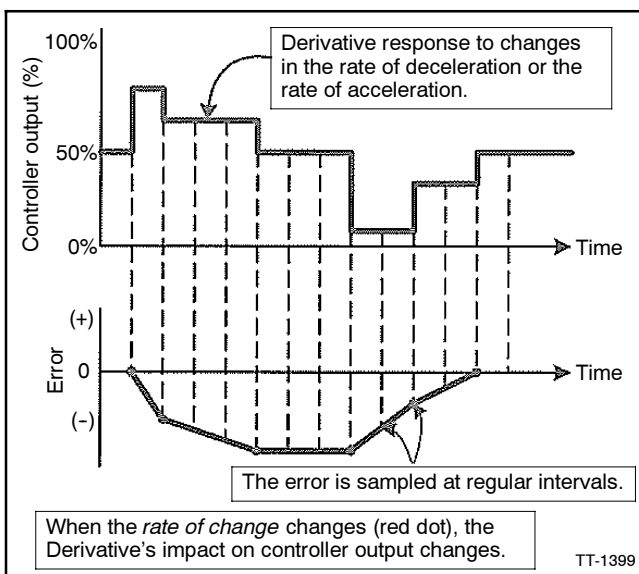

Figure 10-19 Derivative Value
7. **Derivative.** Enter the value from the Governor Parameter Summary. See Figure 10-19.